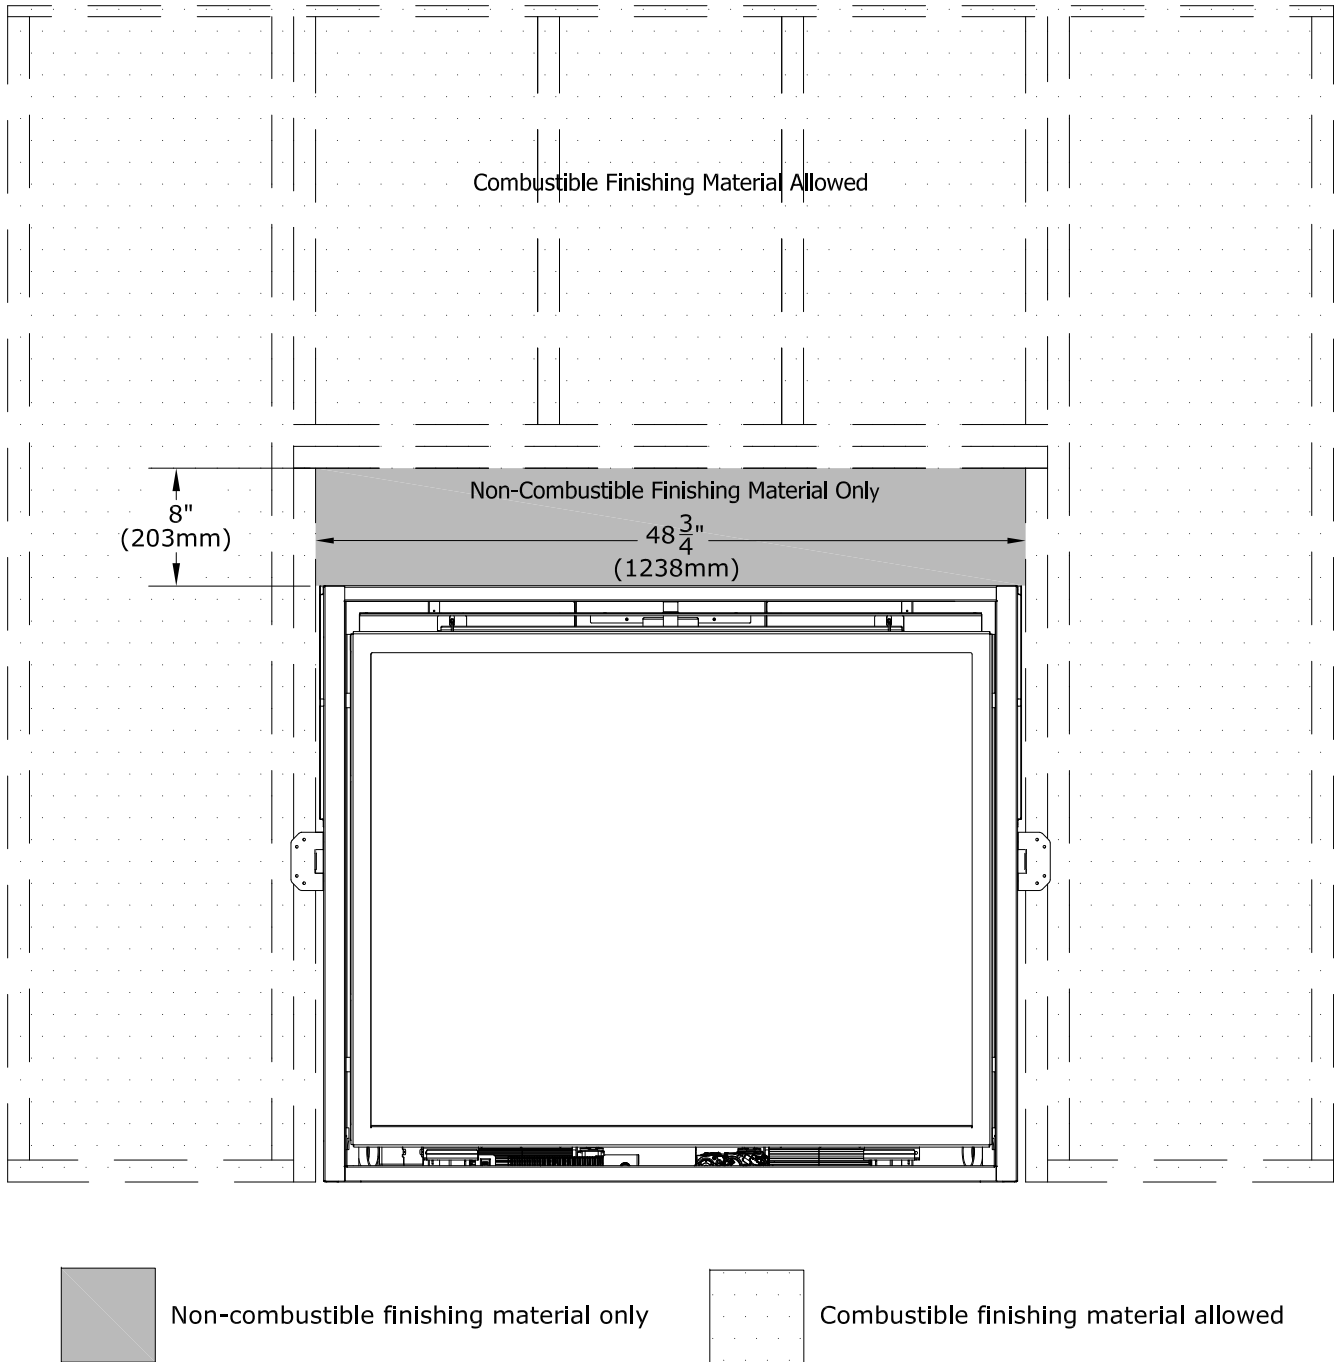

Figure 5.5 - Non-Combustible Finishing Material Requirements
- A 50-1/4" x 8-3/4" non-combustible board is supplied with this fireplace. This board cover more than the minimum non-combustible finishing material requirements. See Figure 5.5, Non-Combustible Finishing Zone for the minimum requirement of noncombustible finishing material.